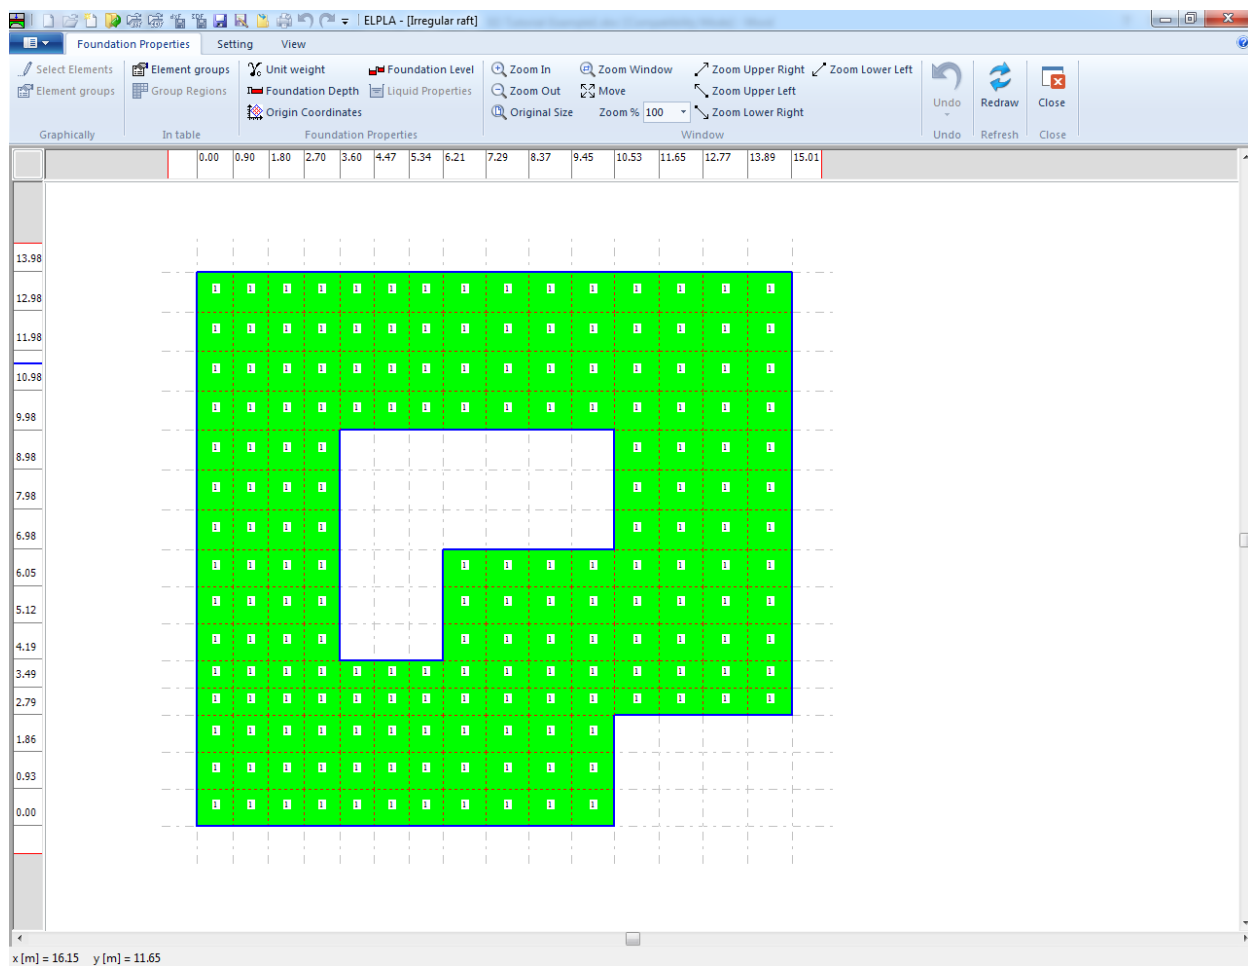
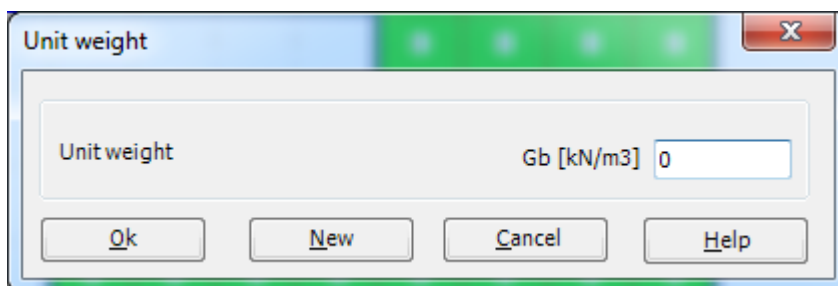
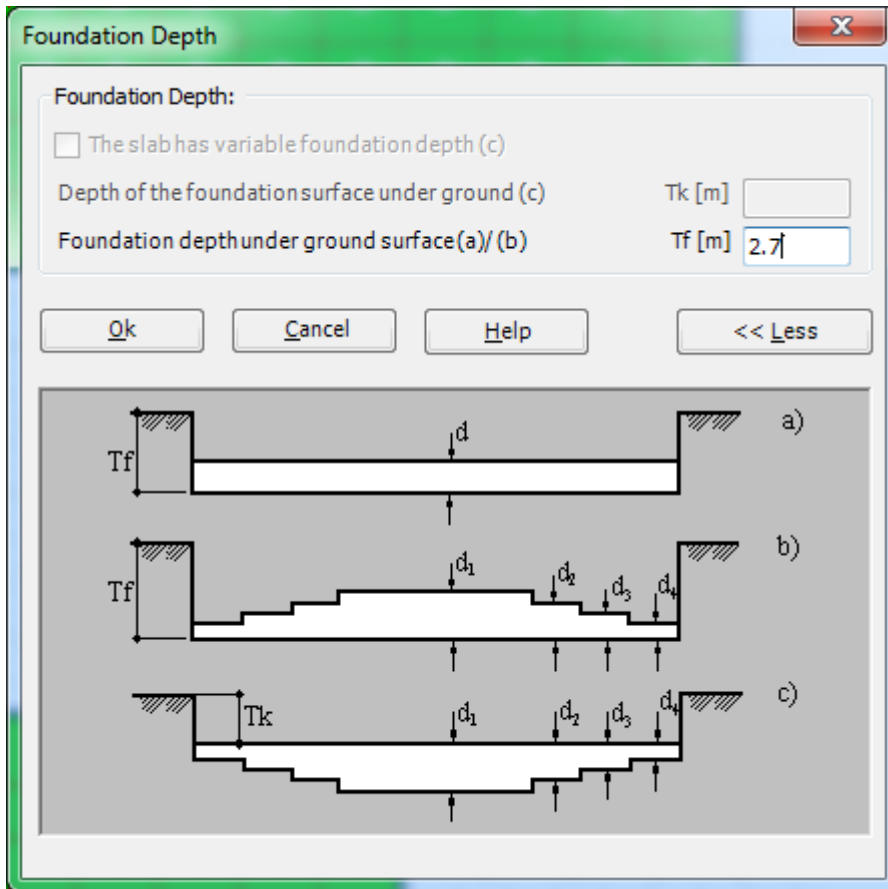

Figure 1.22 "Foundation Properties" Window
Figure 1.24 "Unit weight of the foundation" dialog box
Figure 1.25 "Foundation Depth" dialog box
To define the foundation properties, choose "Foundation Properties" command from "Data" Tab. The following Window in Figure 1.22 appears with default foundation properties. The data of foundation properties for the current example, which are required to be defined, are raft material, raft thickness and foundation depth. Any other data corresponding to foundation properties in the program menus are not required in this example. Therefore, the user can take these data from the default foundation properties.
To enter the unit weight of the raft, choose "Unit Weight" command from "Foundation properties" menu in the window of Figure 1.22. The following dialog box in Figure 1.24 with a default unit weight of 25 [kN/m³] appears. To neglect the self-weight of the raft in the analysis, type 0 in the "Unit Weight" edit box. Click "OK" button.
To enter the foundation depth under the ground surface, choose "Foundation Depth" command from "Foundation properties" menu in the window of Figure 1.22. The following dialog box in Figure 1.25 appears to define the foundation depth under the ground surface. Type 2.7 in the "Foundation depth under the ground surface(a)/ (b)" edit box. Then click "OK" button.
- Choose "Save" command from "File" menu in Figure 1.22 to save the foundation properties
- Choose "Close" command from "File" menu in Figure 1.22 to close the "Foundation properties" Window and return to ELPLA main window.